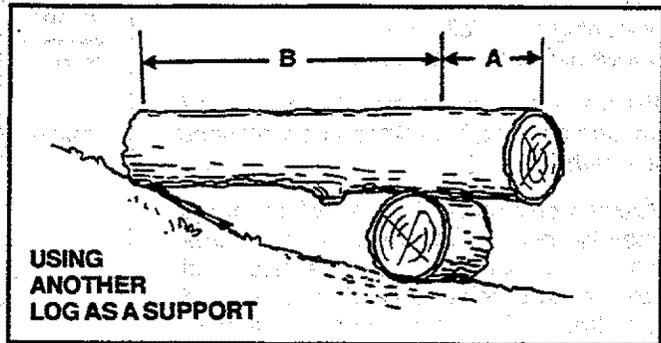

Figure 32
4. BUCKING — USING ANOTHER LOG AS A SUPPORT (Figure 32):